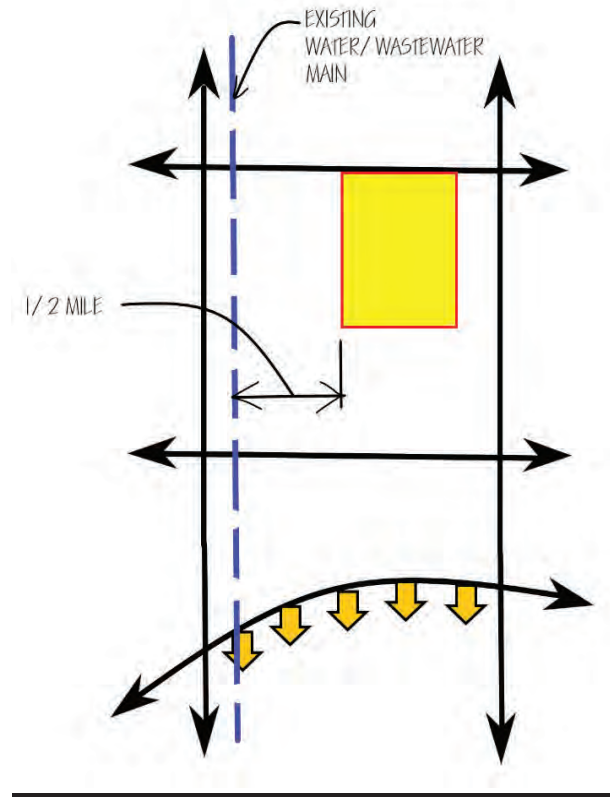

Figure 25 Utility Extension Requirements
- 1.6. Lot Splits are required to provide public water and public wastewater main extensions to the furthest property line when public water and/or wastewater mains is adjacent to the proposed and/or existing pre-split lot. For a single lot split, the public utility main must be within 100 feet. For multiple lot splits the public utility main must be within 200 feet to any existing or proposed public water and/or public wastewater main for required extension. The cost of any public water or public wastewater main extension will be paid for by the applicant and/or developer. See Figure 25 & 26 respectively.